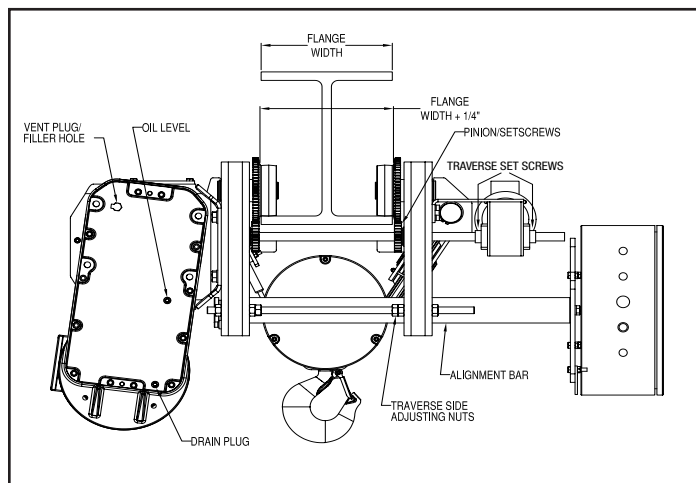

Figure 2-1. Trolley Wheel Spacing ("B" & "C" Frame Shown)
If the trolley can be installed directly from the end of the supporting beam, adjust the spacing between the trolley wheel flanges to be 3/16\"-1/4\" greater than the exact width of the beam flange (See Figure 2-1). Before adjusting the width of the trolley frame, make sure to loosen the pinion set screws nearest the traverse drive on the keyed cross shaft and those on the traverse reducer. Do not lose the keys for the pinion and reducer during adjustment. Also, the electrical conduit/cable must not be constrained when attempting to adjust the trolley sides, in or out. The trolley width is adjusted by loosening the jam nuts on the traverse drive side of the threaded rods at each end of the hoist. If necessary, lubricate the frame alignment bars with penetrating oil before attempting to adjust trolley width. The trolley side may then be pushed or driven into position by turning the adjusting nuts on the threaded rods. Adjust nuts on each side of the hoist simultaneously, to avoid binding. After adjusting the trolley to the proper width, tighten all adjusting nuts and setscrews, and re-secure the electrical conduit/cable. Verify that the geared wheels mesh properly with the traverse drive pinions. Using proper equipment, carefully lift the hoist and install on the end of the beam. Lubricate the wheel gear and pinion (WG, Section IV, Paragraph 4-5).
For trolleys which are to be mounted along the span of a beam not having open ends, the trolley must be adjusted in the same manner as described above to a width that allows clearance between the axle ends and the beam flange. Using proper lifting equipment, the trolley and hoist must then be lifted to the beam where it is to be installed. Once in position, adjust the spacing between the trolley wheel flanges to be 3/16\"-1/4\" greater than the exact width of the beam flange (See Figure 2-1). After tightening all adjusting bolts, set screws, and all electrical conduit/cable clamps, carefully set the trolley on the beam. Lubricate the wheel gear and pinion (WG, Section IV, Paragraph 4-5).
- a) Check Oil Level. (Figure 2-1) The gearcase has been filled with oil to the proper level. However, this should be rechecked before operating the hoist.
Check oil level by removing the Oil Level Plug indicated in Figure 2-1. When properly filled, oil should be level with the bottom of the tapped hole. Fill to this level with oil as specified in Paragraph 4-2.e.